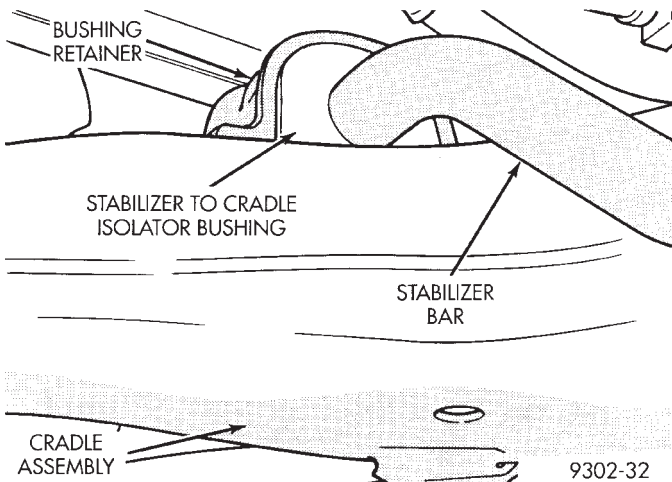

Fig. 6 Stabilizer Bar Isolator Bushing Attachment To Cradle
(1) Remove the 2 bolts each, attaching the stabilizer bushing retainer and bushing to cradle assembly (Fig. 6).
(2) Align the stabilizer bar bushing retainers with the mounting holes in the cradle assembly (Fig. 6). **Install but do not tighten the 4 bushing retainer to cradle assembly mounting bolts. The 4 retaining bolts will be torqued when vehicle is lowered to the ground.**
(3) Lower vehicle to the ground.
(4) With the full weight of the vehicle supported by the suspension. Use a long extension, and torque the 4 stabilizer bar bushing retainer to cradle assembly attaching bolts to 55 N·m (40 ft. lbs.).